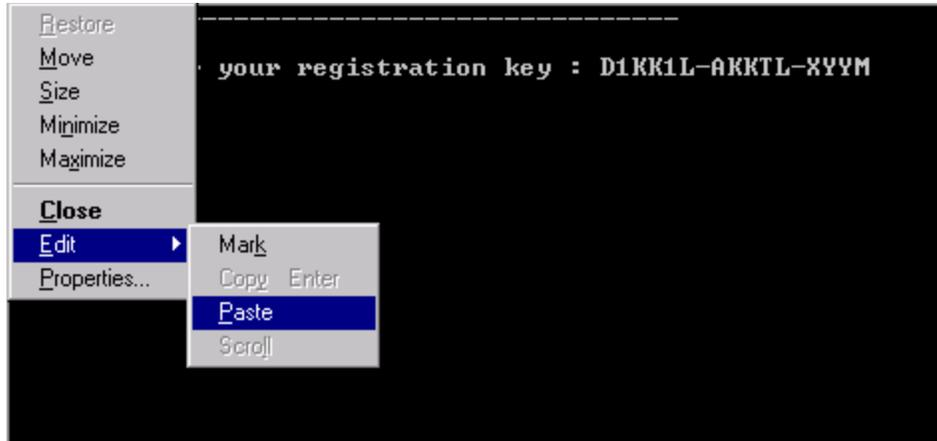

Figure 10: Paste the Registration Key into the DOS Window
1. Copy and paste the registration key from a text file or the Customer Service e-mail. Right-click on the left corner of the DOS window, and select *Edit / Paste*, see *Figure 10* on *Page 40*. The registration key can also be entered manually.